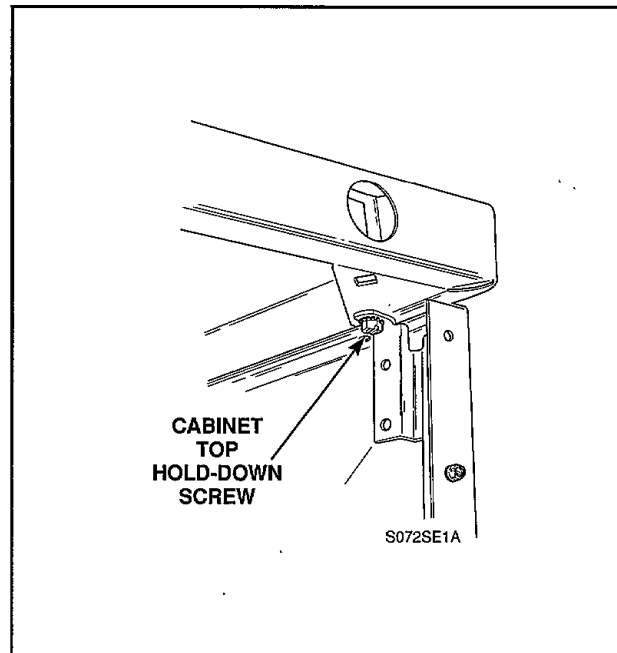

Figure 13
- f. Remove two cabinet top hold-down screws, *Figure 13*.
- g. Remove two cabinet top hold-down screws, *Figure 13*.
- i. Remove two cabinet top hold-down screws, *Figure 13*.